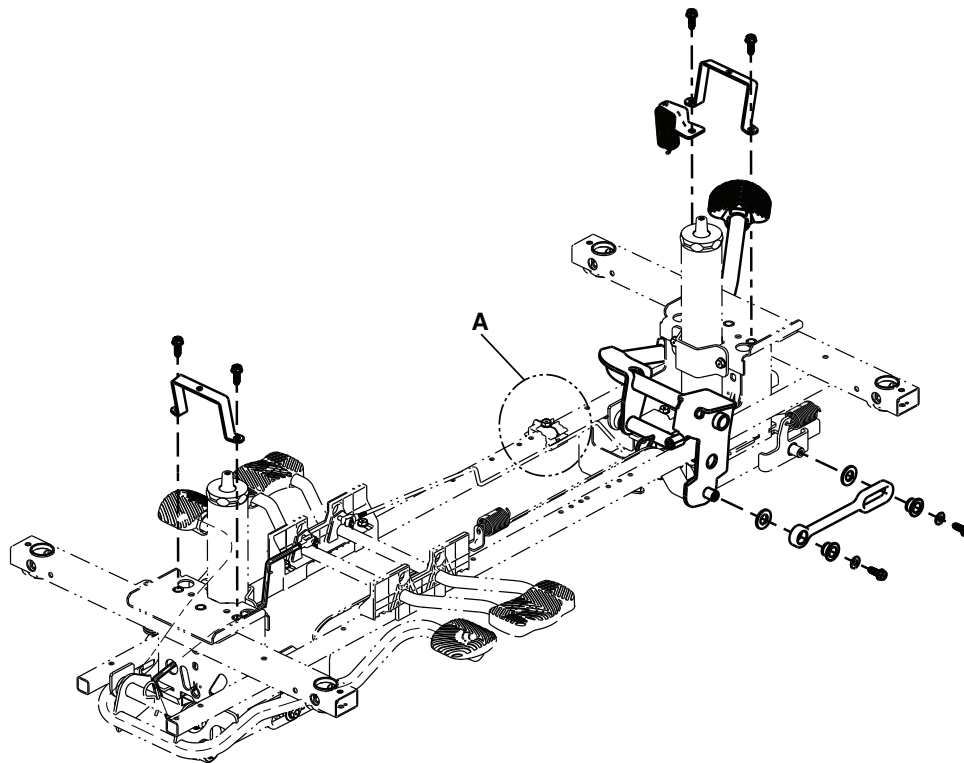

Figure 12 – Release rod brackets
4. Unsnap the foot end pedal release rods from the white plastic release rod brackets (A) (Figure 12).